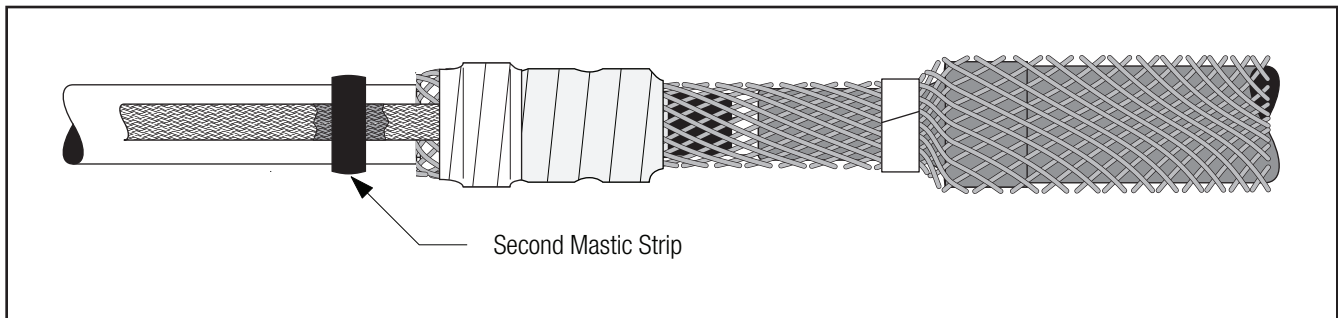

Figure 40
7.5 Place other strip over the solder blocks. Press the mastic strips around the solder block and to the cable jacket. If tails overlap at the solder blocks, place a piece of mastic between them (*Figure 40*).